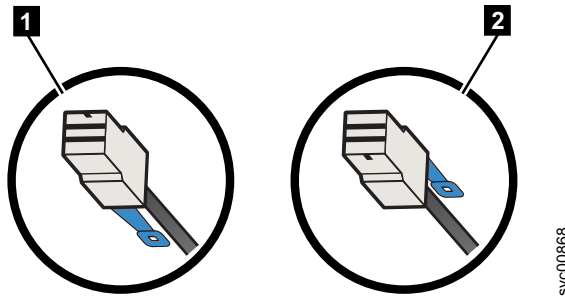

Figure 98. SAS cable connector orientation
- For Storwize V5000 Gen2 control enclosures and 2145-24F or 2145-12F expansion enclosures, the blue pull tab must be below the cable (**1** in Figure 98 on page 118).
- For 2077-92F enclosures, the blue pull tab must be above the connector (**2** in Figure 98).